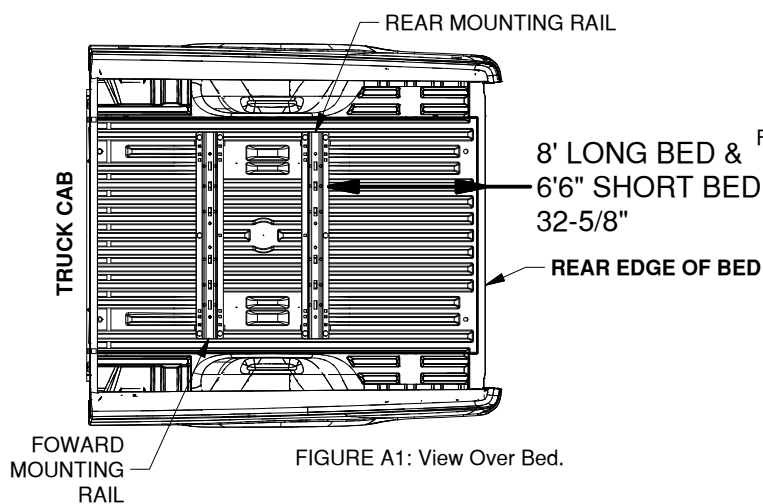

FIGURE A1: View Over Bed.
- 1. Layout the rear mounting rail.** Place a mounting rail onto the bed of the truck. Hook a tape measure over the rear edge of the bed (not on any part of the tailgate), measure the location for the mounting rail as shown in figure A1. Next, center the mounting rail in the bed by measuring the distance on either side from the edge of the rail to the sides of the bed. The rail will be centered when both measurements on either side of the rail are the same.